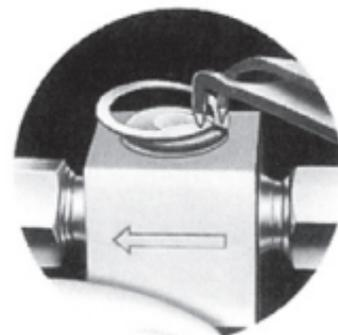

Fig 4
1. Remove snap ring using snap ring pliers or similar tool, and discard. See Fig 4. Turn handle to the open position.
- Install snap ring with snap ring pliers or similar tool. See Fig 4.
- Remove snap ring using snap ring pliers or similar tool. See Fig 4. Set aside. Turn handle to the open position.